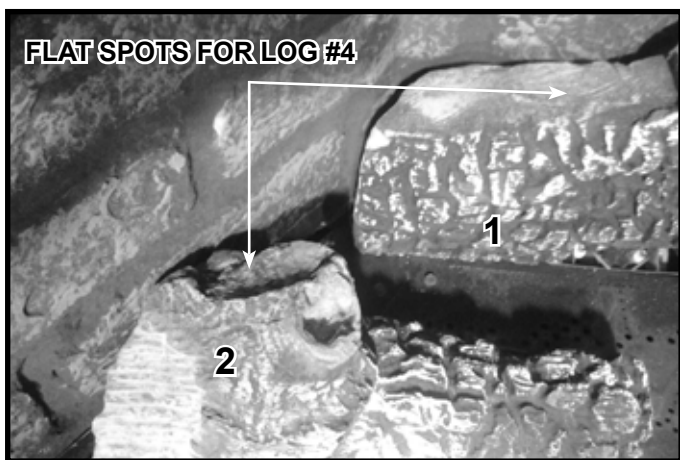
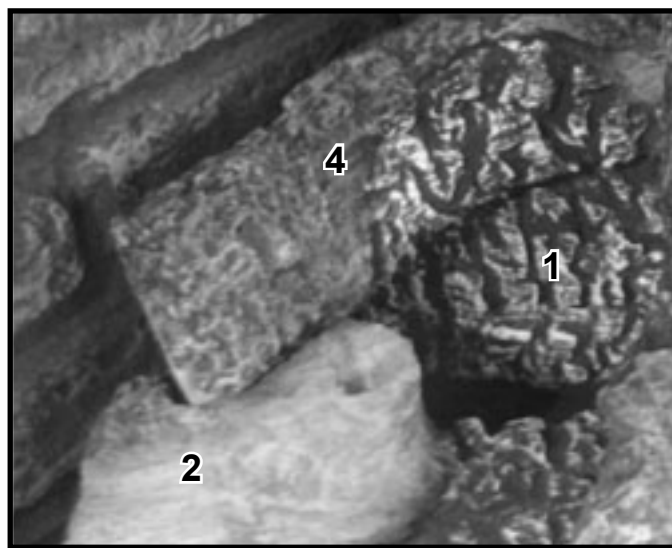

Figure 2. Locations of Flat Spots for Log #4
Figure 3. Log #4 in Position
**LOG #4:** Place Log #4 into position by setting the left end of Log #4 into the flat spot on Log #2 and then resting the right end, or nose, of Log #4 on the flat spot on Log #1. Figure 2 shows locations of flat spots. Figure 3 shows Log #4 installed.